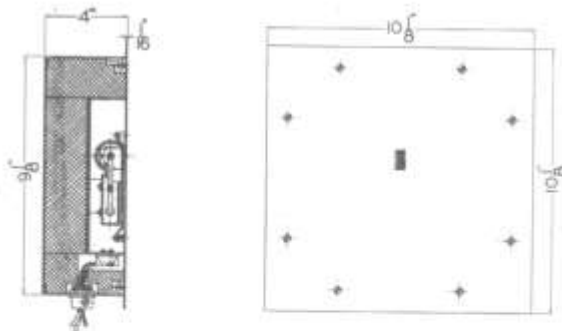

Fig. 14
c. FLUSH TYPE: This type, as illustrated in Fig. 14, is suggested for rooms where, for esthetic reasons, the spherical type cannot be used. The location and principle of operation is the same as that of the spherical type. It can be very conveniently installed in partitions, however, great care must be exercised not to screen or paint over the instrument in any way. It must be exposed to all rays from heated surfaces, sun and air circulation.